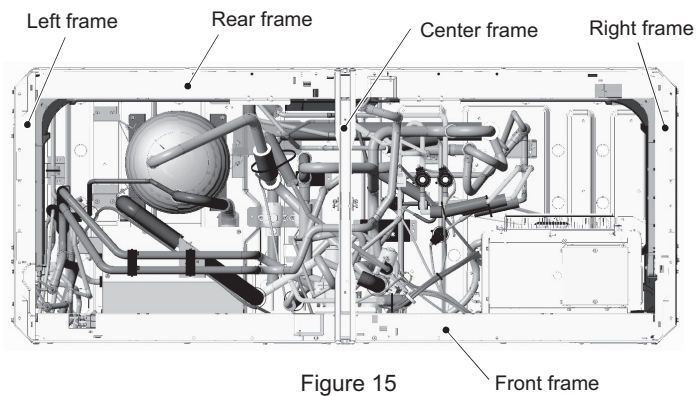

Figure 15
(17) To remove the front heat exchanger, remove the front, right, left, and center frames. (16 screws, Figure 15)
To remove the right and left heat exchangers in the back, remove the rear frame. (18 screws, Figure 15)